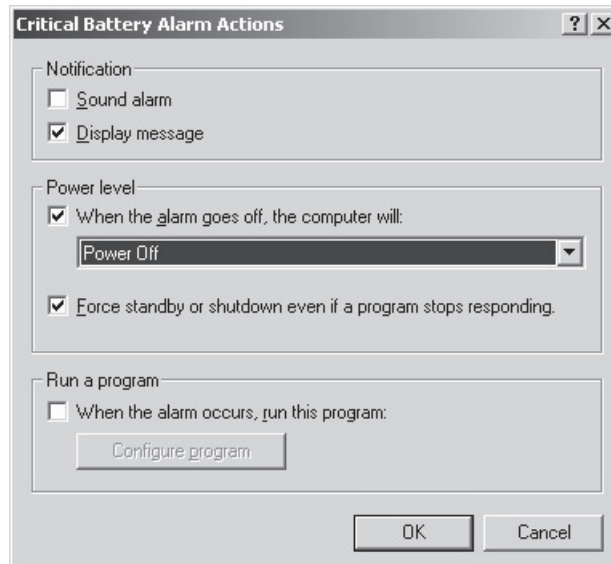

Figure 94. Critical Battery Alarm Actions Dialog Box
12. (Refer to Figure 94) In the Power Options Properties Dialog Box, do the following: